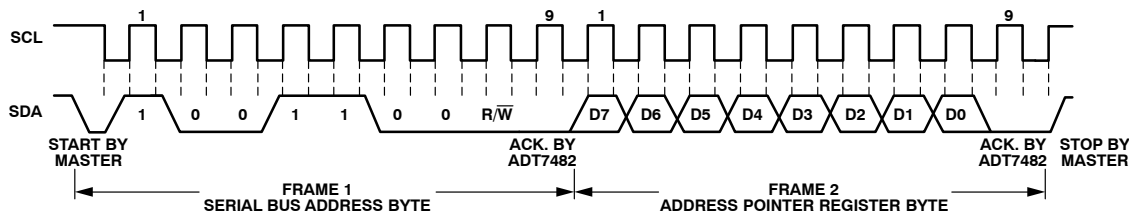
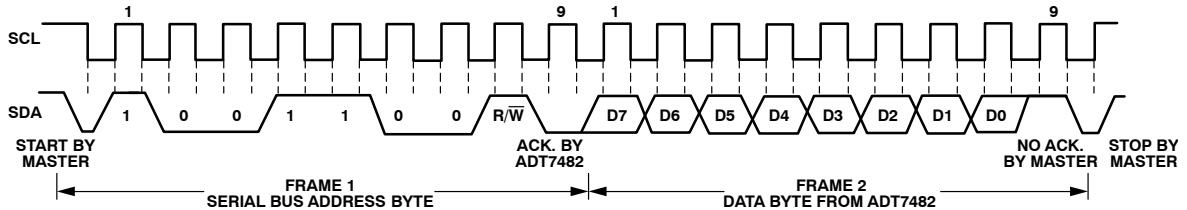

Figure 17. Writing to the Address Pointer Register Only
Figure 18. Reading from a Previously Selected Register
- If the ADT7482 address pointer register value is unknown or not the desired value, it is first necessary to set it to the correct value before data can be read from the desired data register. This is done by performing a write to the ADT7482 as before, but only the data byte containing the register read address is sent, as data is not to be written to the register. This is shown in Figure 17. A read operation is then performed consisting of the serial bus address, R/W bit set to 1, followed by the data byte read from the data register. This is shown in Figure 18.
- If the address pointer register is known to be already at the desired address, data can be read from the corresponding data register without first writing to the address pointer register and the bus transaction shown in Figure 17 can be omitted.